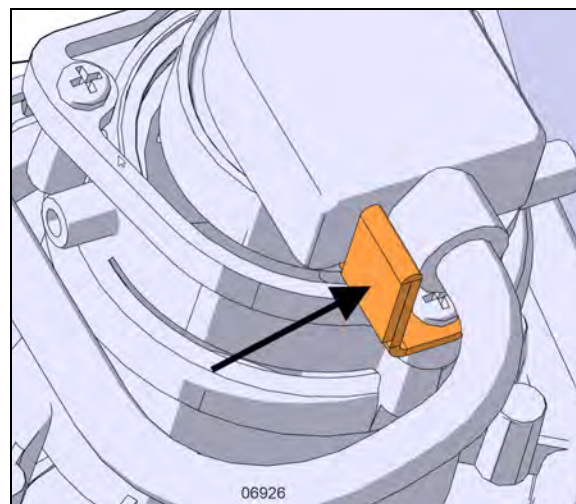

FIGURE 80: CONNECTOR STOPPER
4. Install the new bulb by reversing the previous steps and make sure the connector stopper is in place (Figure 80).